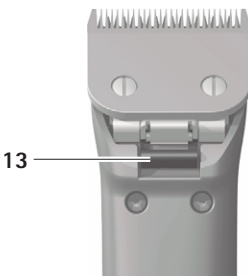

Fig. 4
- Press shearing head lock **13**, see Fig. 4.